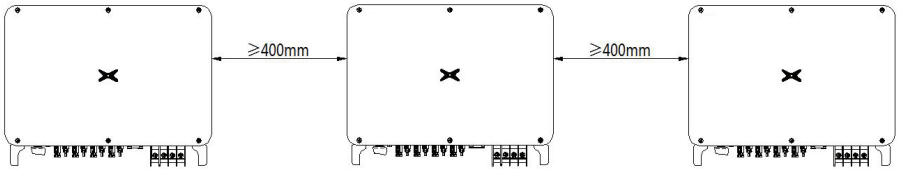

Fig 4.5 Size requirements for side-by-side installation
(4) The installation surface should be perpendicular to the horizontal line, as shown in Figure 4.5. Please install the inverter vertically or backward ≤15° to facilitate the heat dissipation of the machine. Do not tilt the inverter forward, horizontally, upside down, leaning too far, or tilting to the side.